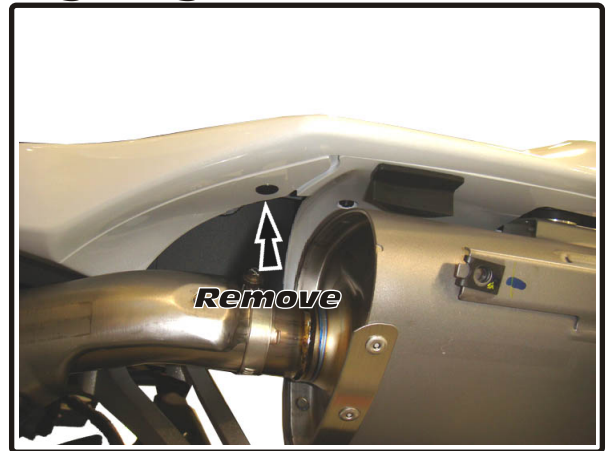

Fig. 2
- Remove push type rivet. (Fig. 2)